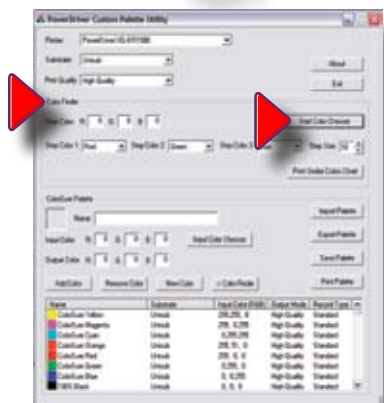

Figure 2
- First, make sure you select **PowerDriverIQ**, then your desired **Substrate & Output. (High Speed or High Quality)** This activates the **"PowerDriver Custom Palette Utility" Screen. (Figure 2)**